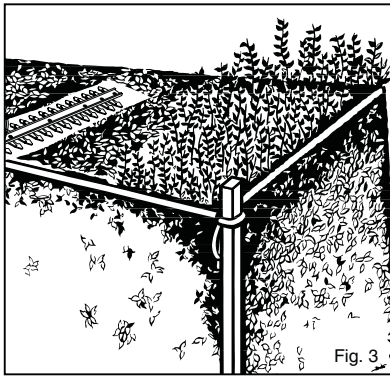
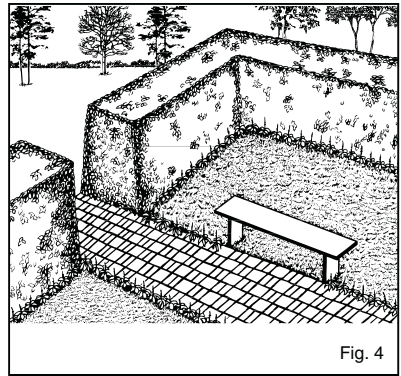

Fig. 3
Fig. 4
- If desired, you can use a string to help cut your hedge level. Decide how high you want the hedge. Then, stretch a piece of string along the hedge at this height. Trim the hedge just above this line of string (Fig. 3). Trim the side of a hedge so that it will be slightly narrower at the top (Fig. 4). More of the hedge will be exposed when shaped this way, and it will be more uniform.